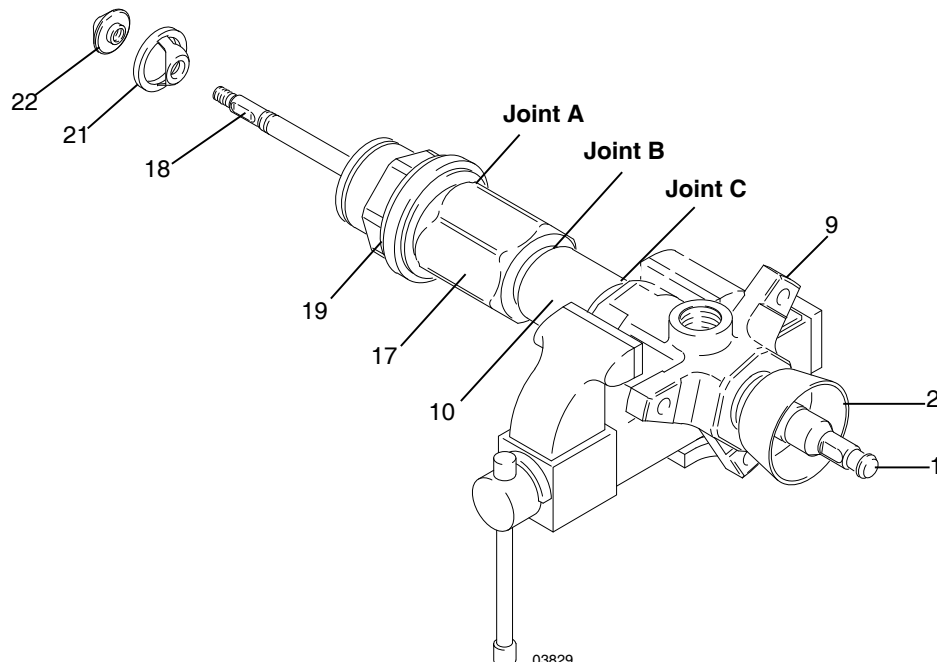

FIG. 6
2. Place the pump in a vise, with the outlet housing (9) positioned as shown in FIG. 6.
3. Hold the flats of the priming piston rod (18) with an adjustable wrench. Use a second wrench to unscrew the priming piston seat (22) from the rod. Slide the priming piston (21) off the rod. Inspect the inner and outer surfaces of the piston (21) for scoring, wear, or other damage.
4. Loosen the packing nut (2) using the wrench (109) supplied.
5. Use a pipe wrench to unscrew the hex (19) of the intake cylinder from the intake valve housing (17).
NOTE: The pump may separate at joints A, B, or C. See FIG. 6.